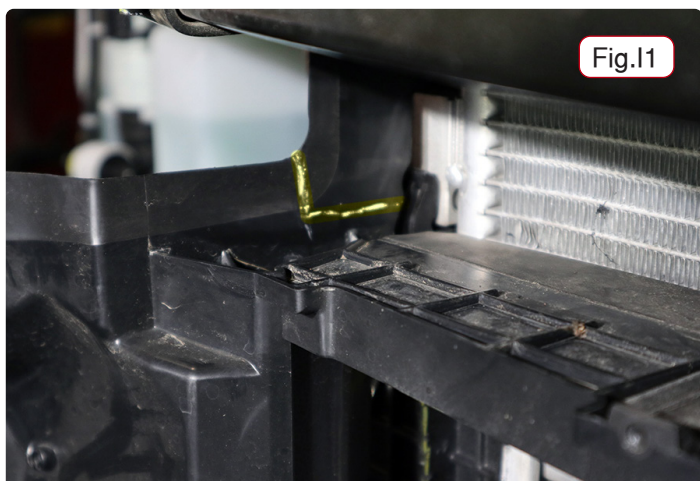

Fig.I1
7. On each side, utilize an utility knife or reciprocating saw to separate the lower air dam as shown, using the yellow line in Figure I1 as a reference. Then, use a flathead screwdriver or